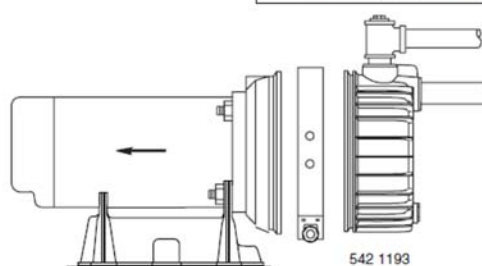

Figure 19 – Slide Motor Back
Pump and piping need not be disconnected to repair or replace motor or seal (see Figure 19). If motor is replaced, replace the shaft seal. Keep one on hand for future use.
2. Remove clamp (see Figure 19).
3. Remove pump base mounting bolts. Motor assembly and back half of pump can now be pulled away from pump front half (Figure 19). CAREFULLY remove O-ring.